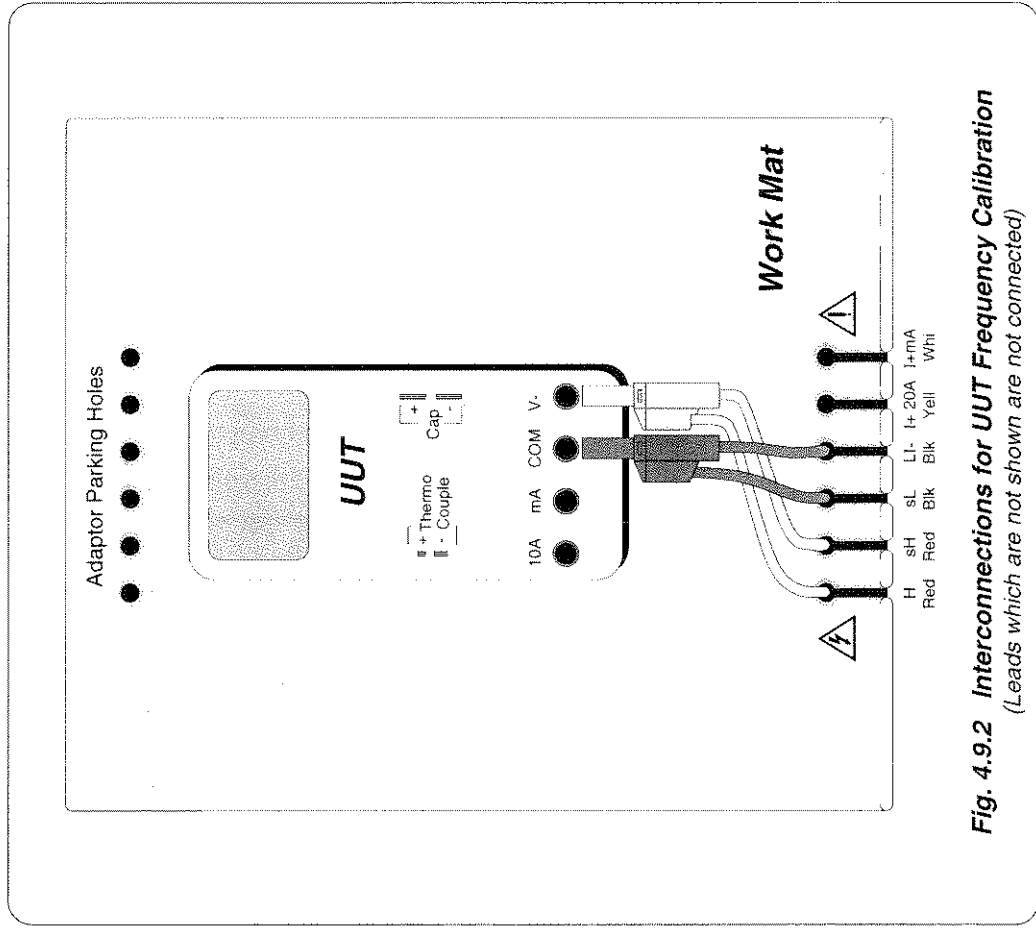

Fig. 4.9.2 Interconnections for UUT Frequency Calibration
The general connection scheme for UUT calibration is illustrated in Fig. 4.9.2. For UUTs without *safety* banana sockets, use appropriate adapters.
1. **Connections** Connect the 9100 to the UUT as shown in *Fig. 4.9.2*, and ensure that both instruments are powered ON and warmed up.